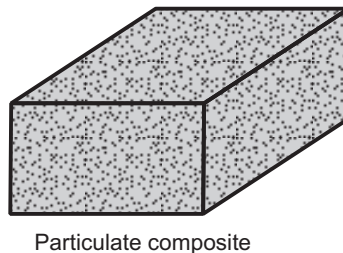

Fig. 7.4 : Particle-reinforced composite
- The composites consist of fine particles of same overall dimensions (equiaxed) distributed uniformly across the matrix phase. Refer Fig. 7.4.